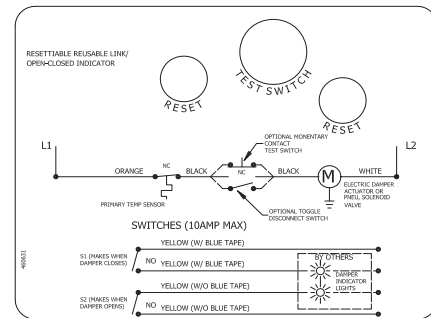

Figure 25: RRL/OCI
**RRL /OCI** - The RRL/OCI performs the function of an RRL and OCI (see description above). Refer to **Figure 25** for wiring of the RRL/OCI option.